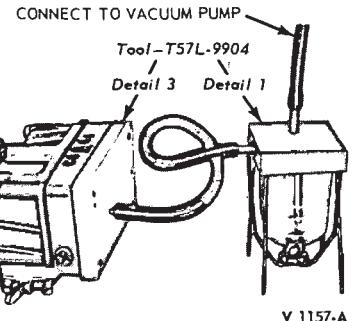

FIG. 9—Power Valve Test
2. Install the fuel bowl, metering block, and gaskets on the adapter plate (Fig. 9). Be sure the fuel bowl screws are properly tightened.